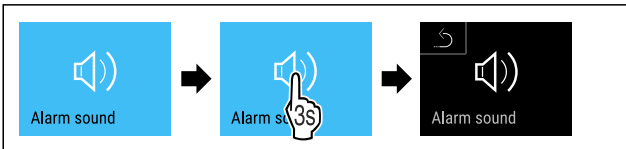

Fig. 112
- ▶ Complete steps (see Fig. 112).